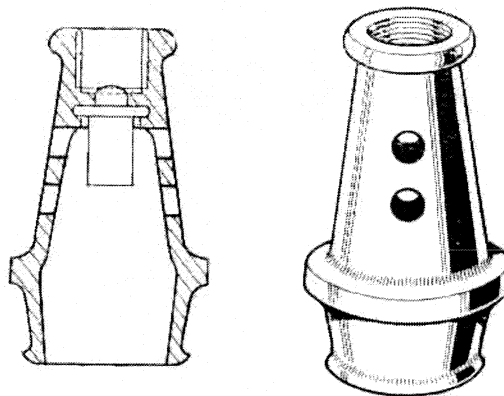

Fig. 1 Modification to sparking plug cover.
2. Drill four $\frac{3}{16}$ in. (4,8 mm.) holes in the cover as shown at Fig. 1. The lower holes